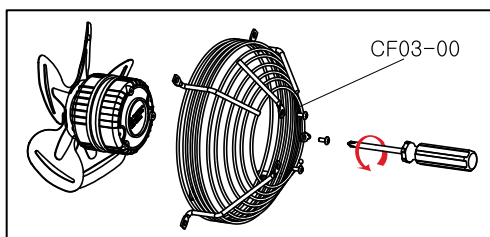

Fig 8-11
3. Unscrew the connecting bolts between the fan motor and fan guard. (Fig 8-11)